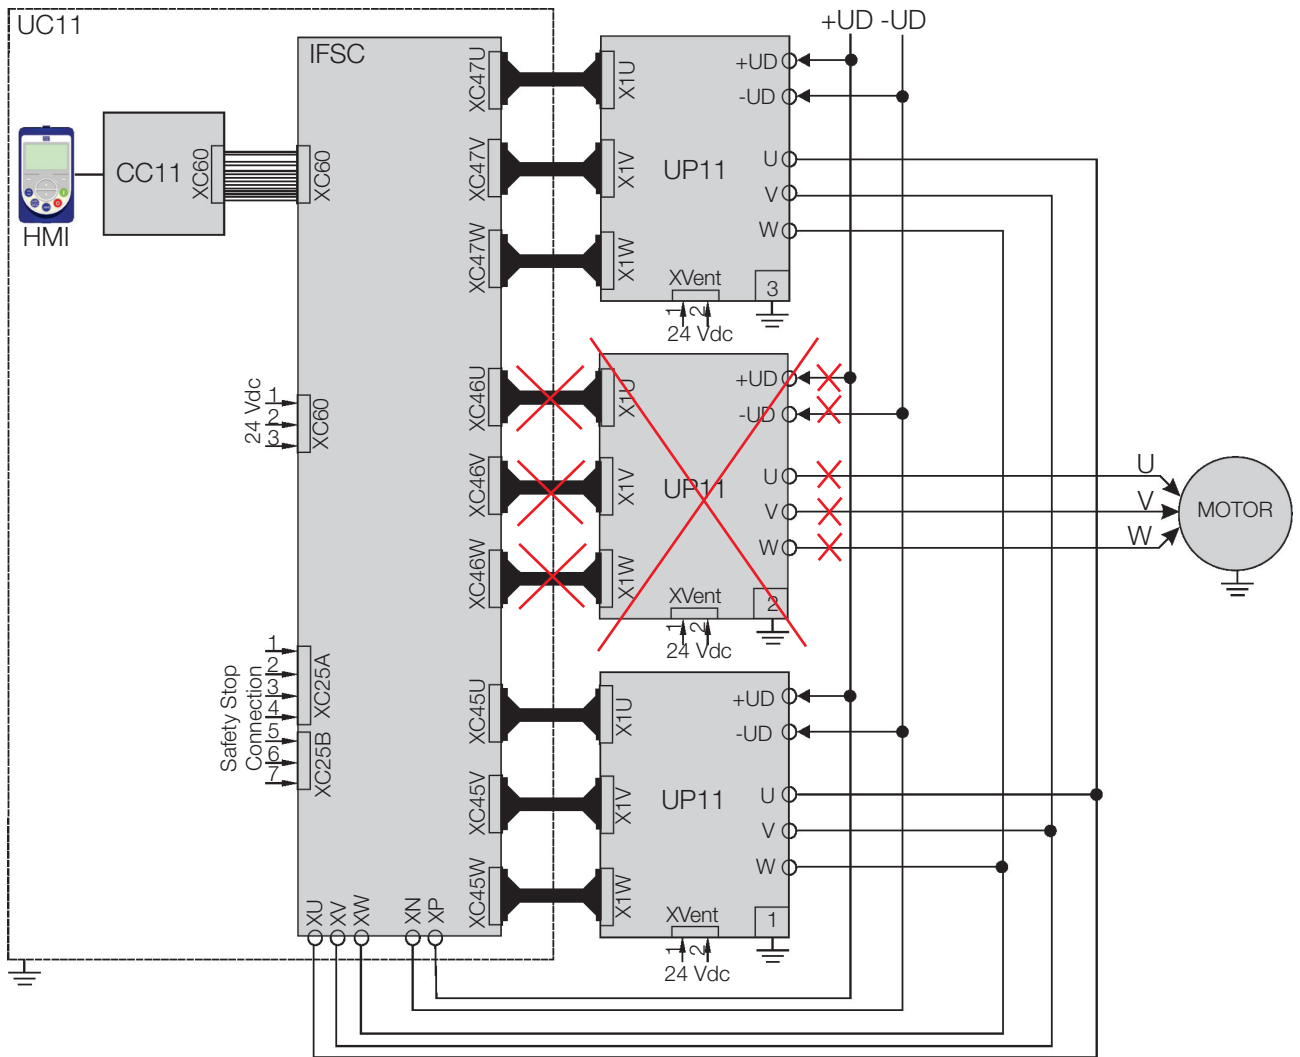

Figure 5.6: Disconnection of the power and control cables of UP11 number 2
3. Disconnect the power and control connections of the UP11 number 2, according to Figure 5.6 on page 5-11.